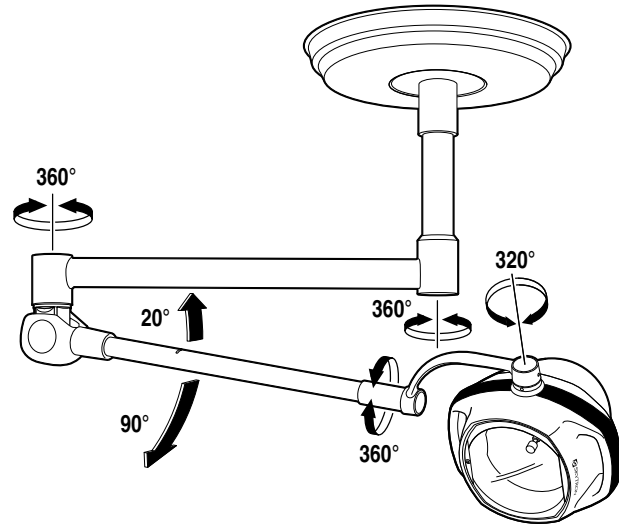

Figure 1-2. Model ST9
2. Using the positioning handle or the optional sterile handle, place the lighthead in the desired position. Rotate the intensity control to select the desired intensity. Refer to figure 1-2 for full positioning capabilities.